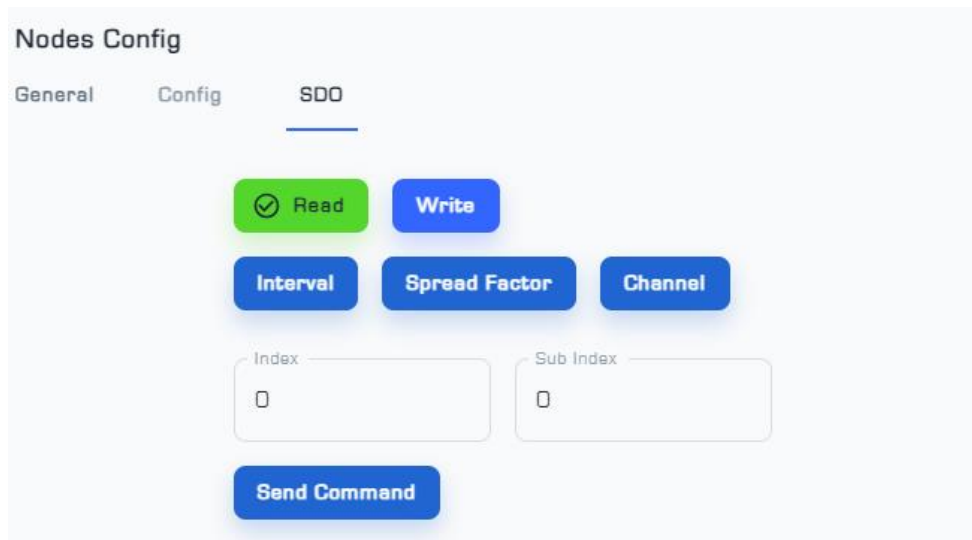

Figure 7: SDO Menu from Nodes Setting page
- The SDO menu is used to change the parameters of Interval¹, Spread Factor, and Channel² (Figure 7).